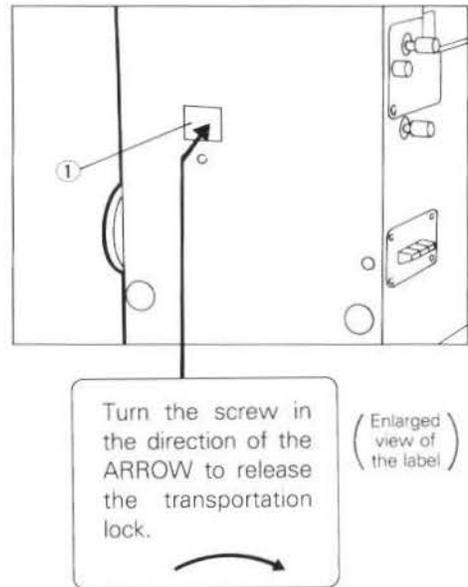

Fig. 1
1. Turn the microscope on its back. (Fig. 1)
2. Fully loosen the locking Hexagon screw located in the center of the base by turning it clockwise (as indicated by the ARROW on the label ①). Use the Hexagon wrench provided in the cleaning kit contained in the smaller accessory case.